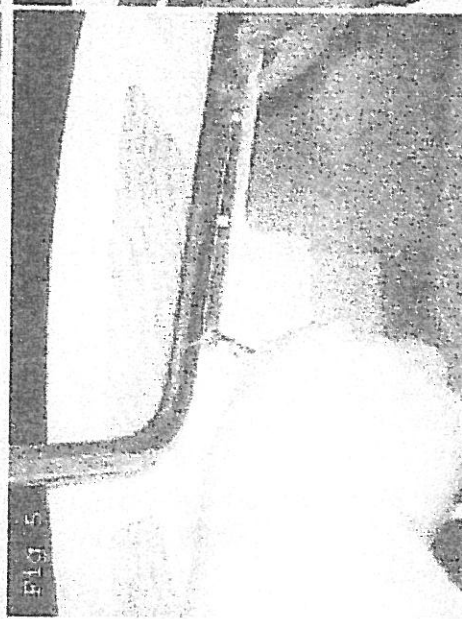

FIG 5
3. Remove the frame and seal from the car. Put the frame in the open position and align marks on each end of the hinge. Now mark one screw hole on each end of the hinge (Fig. 5). Use a center punch to mark the holes and then drill with a 1/8" drill bit. NOTE: Just drill the outside holes. That way if you have made a mistake you can change the location later. Now set the frame in again and screw in with two screws. Don't tighten the screws all the way yet. By only installing two screws you can still move the frame around if further alignment is needed. (Fig. 6).